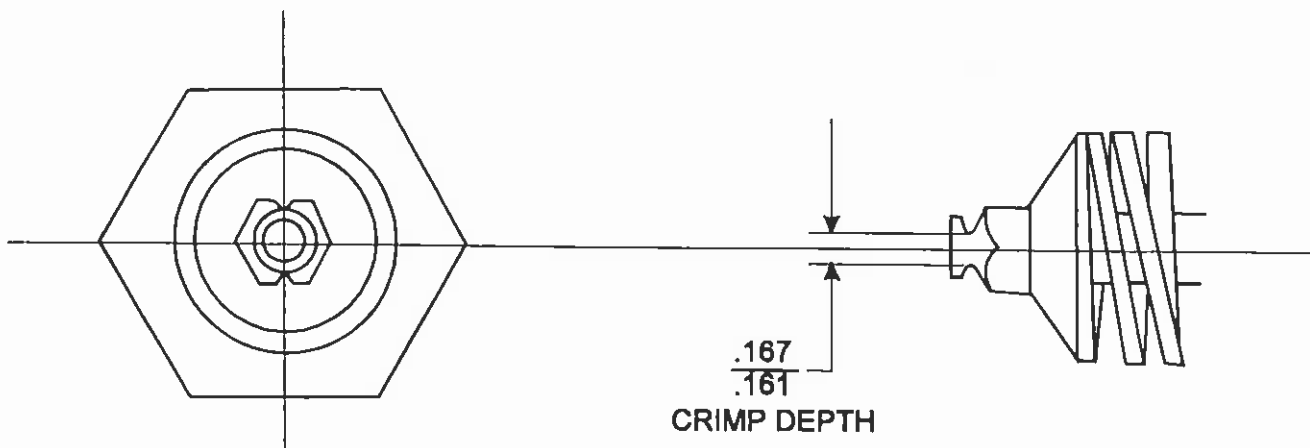

Figure 1.
Step 1 is the dimensional inspection of the crimp nut. The crimp depth on the nut must be .161-.167 as shown in Figure 1.